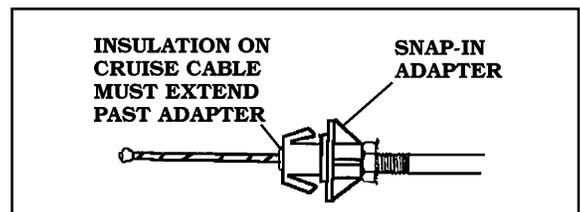

Figure 21
2. After the threads have been formed, screw the **SNAP-IN ADAPTER** onto the **CRUISE CABLE**. **Figure 21**